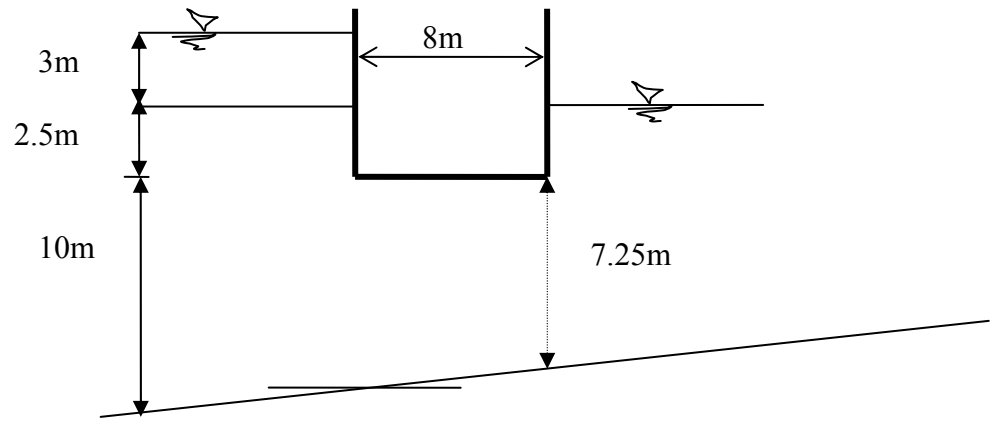

Figure 2
- (b) Draw the flownet for seepage under the structure detailed in Figure 2 and determine the quantity of seepage. The coefficient of permeability of soil is $5.0 \times 10^{-5} \text{ m/s}$. How much is the uplift force on the base of the structure.